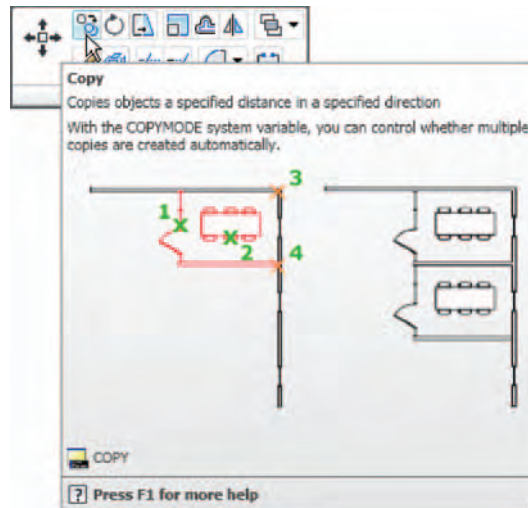

Fig. 5.4 The **Copy** tool from the **Home/Modify** panel
2. Call the **Copy** tool – *left-click* on its tool icon in the **Home/Modify** panel (Fig. 5.4), *pick Copy* from the **Modify** toolbar, or *enter cp* or *copy* at the command line.